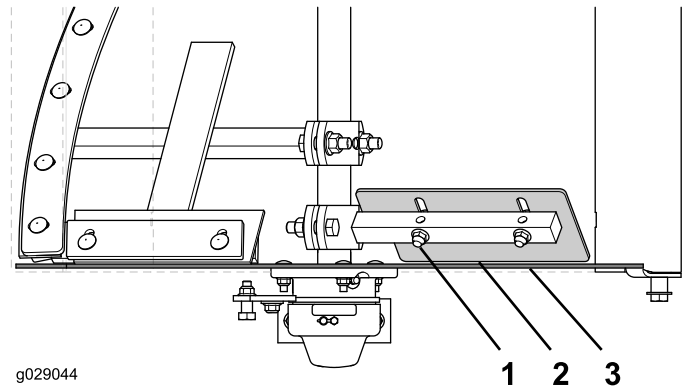

Figure 67
2. Loosen the carriage bolts and flanged locknuts that secure the adjustable end paddle to the fixed paddle. (Figure 67)